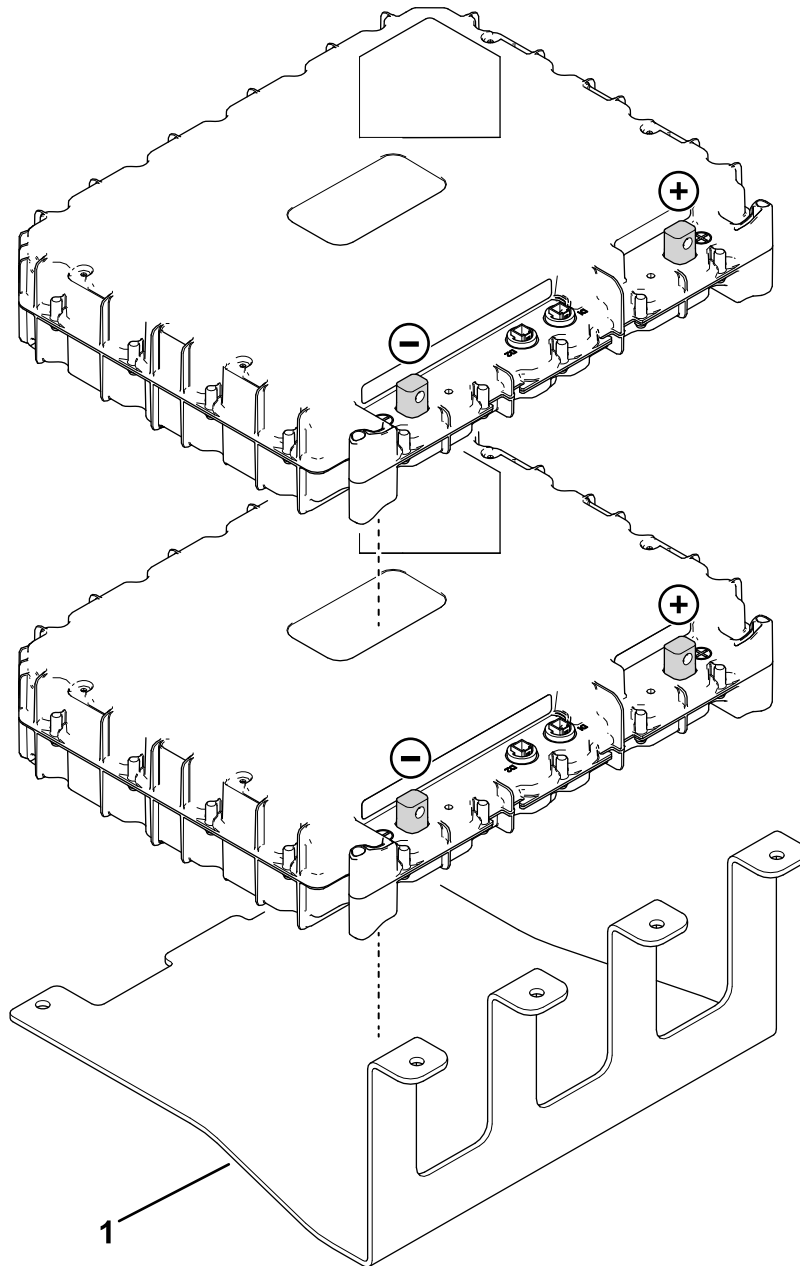

Figure 18
2. Assemble the 2 batteries on the bottom base plate as shown in Figure 18.